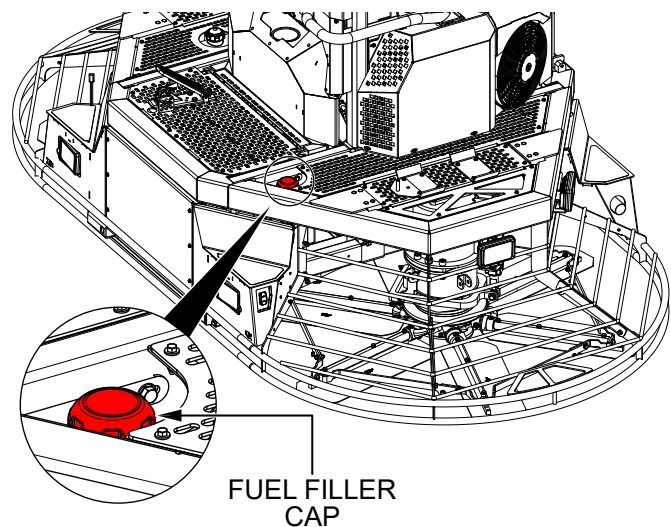

Figure 28. Fuel Filler Cap (Gasoline)
3. If fuel is low, remove the red fuel filler cap (Figure 28) and fill the tank with unleaded 87 or 89 octane gasoline. **DO NOT** overfill. The fuel tank holds 14.5 gallons (55 liters) of gasoline.